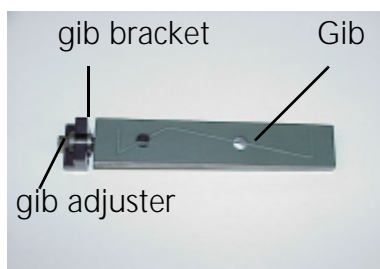

Figure 6-13 Gib Adjustment
- 3) Attach a magnetic base and indicator to the column, as shown in Figure 6-13.